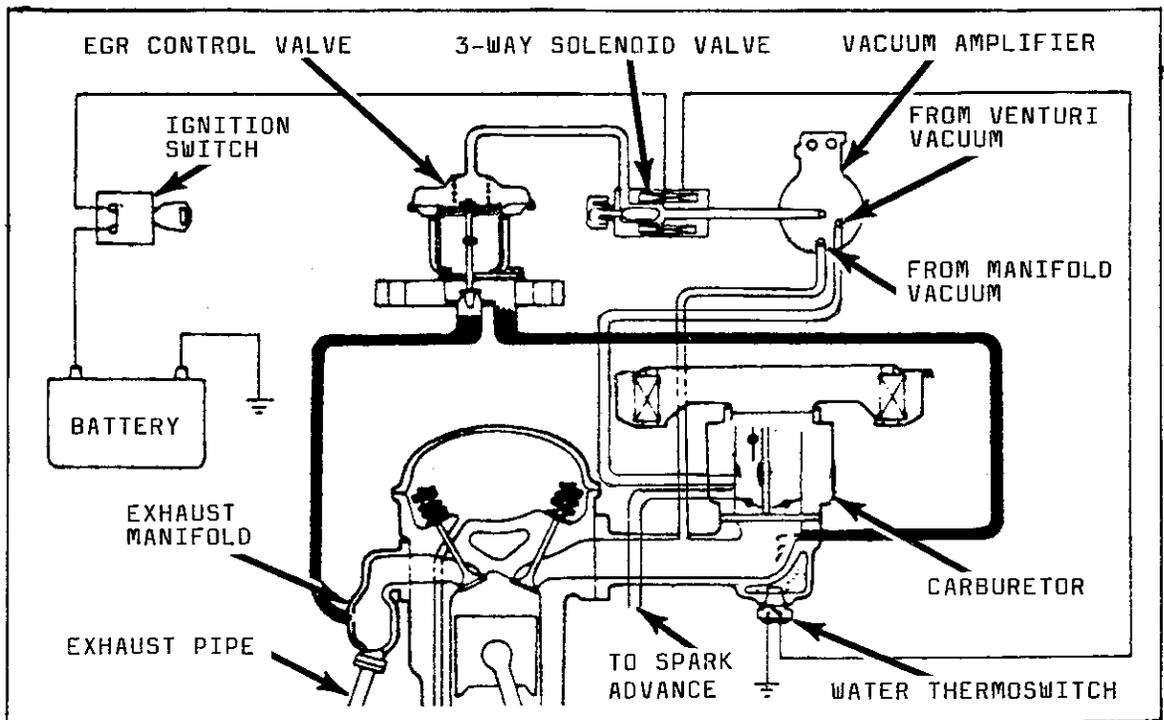

Figure 7. Emission Control System Schematic (1.8 & 2.3 L.)
8. Disconnect all lines and electrical wires from the stock carburetor. Use a corresponding number system to identify lines and wires during reinstallation. See figures 7 and 8 or the vacuum line map on inside of the hood for identification.